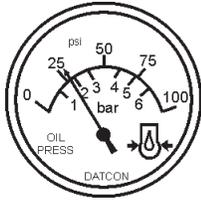

Figure 49. Oil Pressure Gauge
12. The engine oil pressure gauge (Figure 49) will indicate the oil pressure (kg/ cm2) of the engine. Under normal operating conditions the oil pressure is approximately 35~65 PSI.